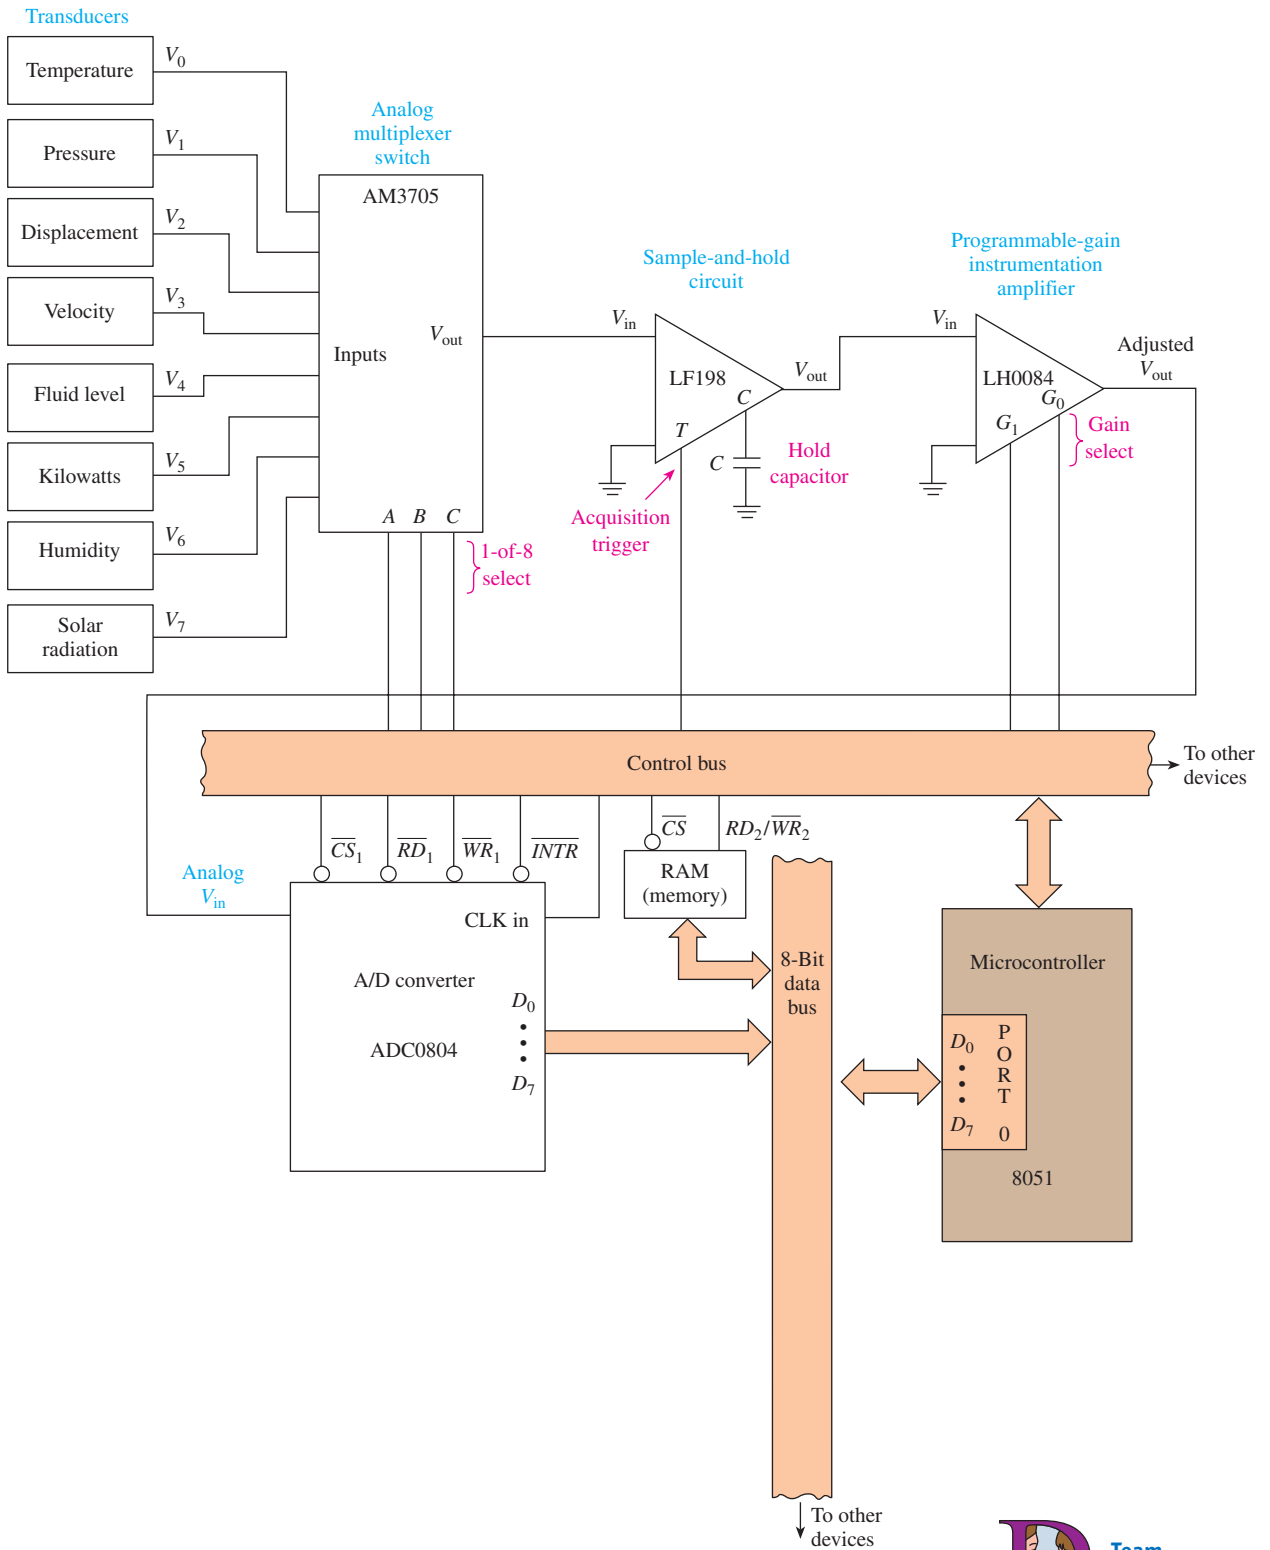

Figure 20 Data acquisition system.
The computerized acquisition of analog quantities is becoming more important than ever in today's automated world. Computer systems are capable of scanning several analog inputs on a particular schedule and sequence to monitor critical quantities and acquire data for future recall. A typical eight-channel computerized **data acquisition** system (DAS) is shown in Figure 20.
The entire system in Figure 20 communicates via two common buses, the *data bus* and the *control bus*. The data bus is simply a common set of eight electrical conductors shared by as many devices as necessary to send and receive 8 bits of parallel data to and from anywhere in the system. In this case, there are three devices on the data bus: the ADC, the microprocessor (or microcontroller), and **memory**. The control bus passes control signals to and from the various devices for such things as chip select (\overline{CS}), output enable (\overline{RD}), system clock, triggers, and selects.
21. The AM7305 multiplexer in Figure 20 is used to apply the appropriate voltage gain to each of the transducers connected to it. True or false?
22. The 8-bit data out from the ADC in Figure 20 passes to the microprocessor via the data bus. True or false?